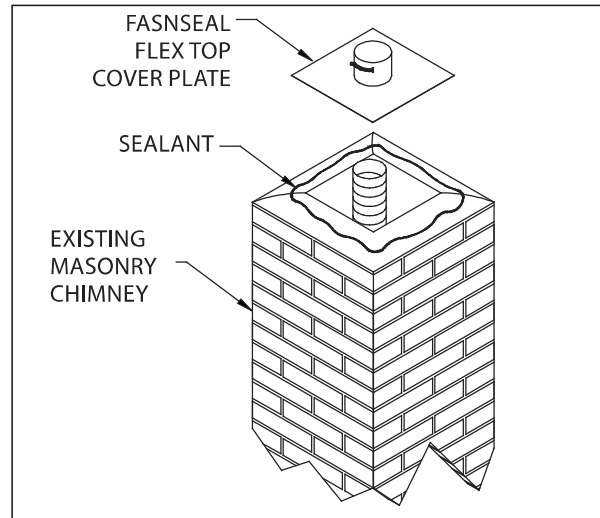

Figure 16
1. Slide the Top Plate over the Flex Liner and seal the Top Plate to the masonry chimney using a bead of non-hardening sealant around the top of the chimney and underside of the Top Plate (**Figure 16**).